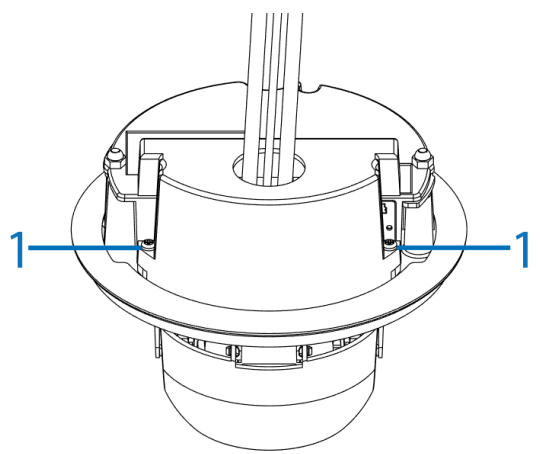

Figure 5
6. Align the two screws on the metal cover (1) (Figure 5) with the two holes on the camera and use a screw driver to securely attach the metal cover to the camera.